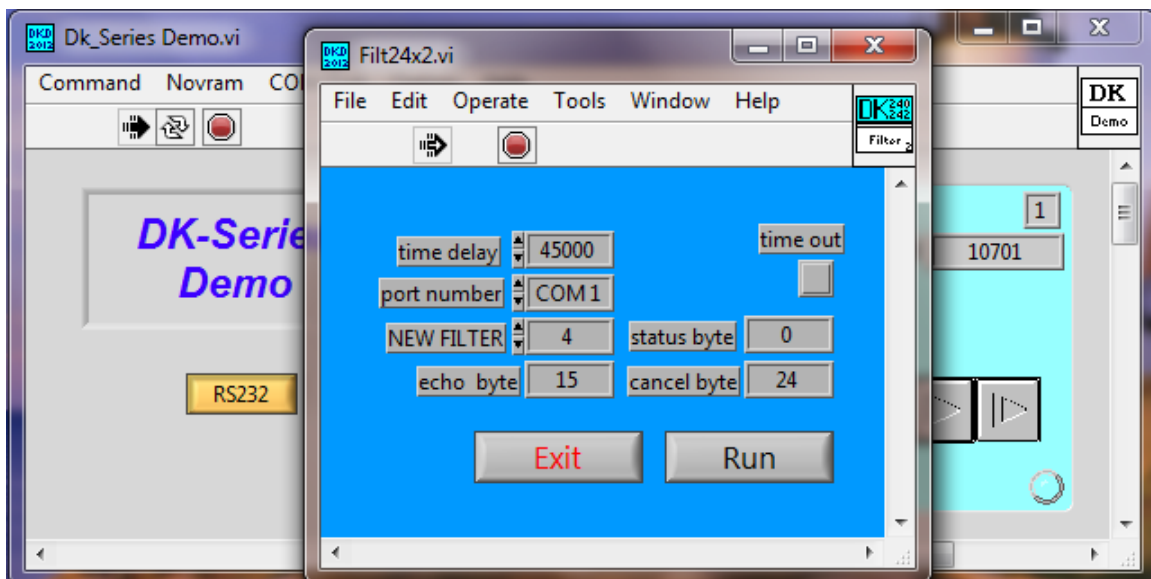

Figure 12. Filter
9.2.8 Filter – This vi controls the *optional* AB300-T filter wheel, allowing the user to select filter positions (Fig 12). Enter the desired filter number (1-6) in the NEW FILTER box and press the Run button to change filter position. Press the Exit to quit the vi.